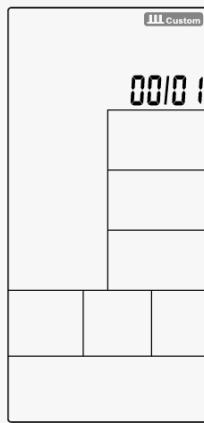

Figure 32
1. Press INTERVAL to select INTERVAL CUSTOM, press ENTER to enter into this mode then INTERVAL CUSTOM 00/XX flashes to be set along with buzzer beeps 1s. Press UP/DOWN to set 00/XX within 1~99 Circularly. Press ENTER to confirm along with buzzer beeps 1s then enter into next setting.(Figure 32).